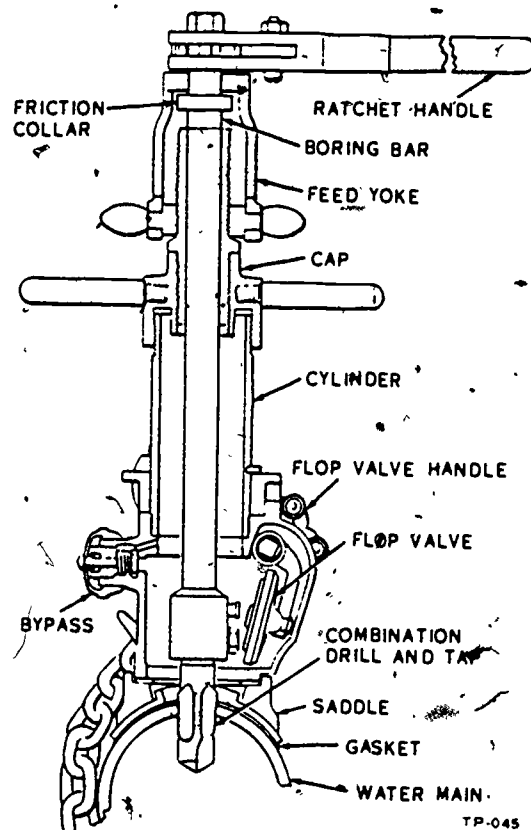

Figure 3-57. Water main self-tapping machine.
**Water main self-tapping machine.** The water main self-tapping machine shown in figure 3-57 is a specialized tool used for tapping a water main under pressure. It consists of a body, which straps around the pipe to be tapped; a butterfly valve, which can be opened and closed as needed; and an upper section, which is rotated to tap the pipe. By using this machine, you can tap a hole in a water main under pressure and install a corporation stop without losing over a quart of water.